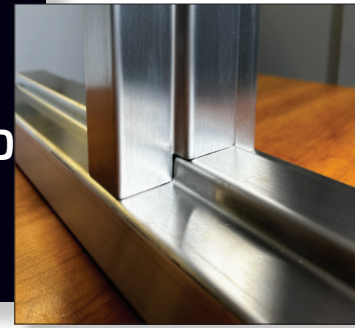

Figure 4 - Typical frame jamb and mullion detail
- Typical intersecting jambs and mullions (Refer to Figure 4) are manufactured identically for grained, mirrored, patterned, textured, and colored finishes. Mullions are inset slightly from the frame face to align with the jamb radius, thereby minimizing the space between the jambs and mullions.